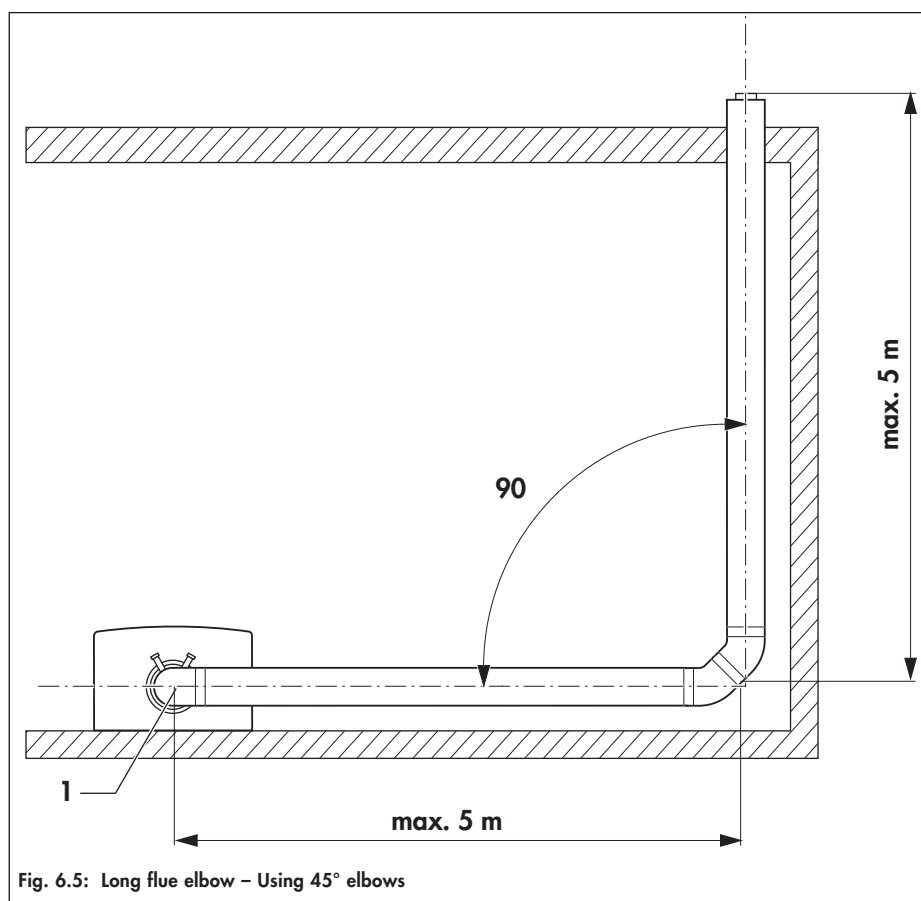

Fig. 6.5: Long flue elbow – Using 45° elbows
- When using elbows for long flue runs in a corner follow fig. 6.4 and fig. 6.5 to avoid obstructions.
When using 87° elbow install with a slope of 3° between wall and air-flue pipe (fig. 6.4) or use 2 x 45° elbows (fig. 6.5).